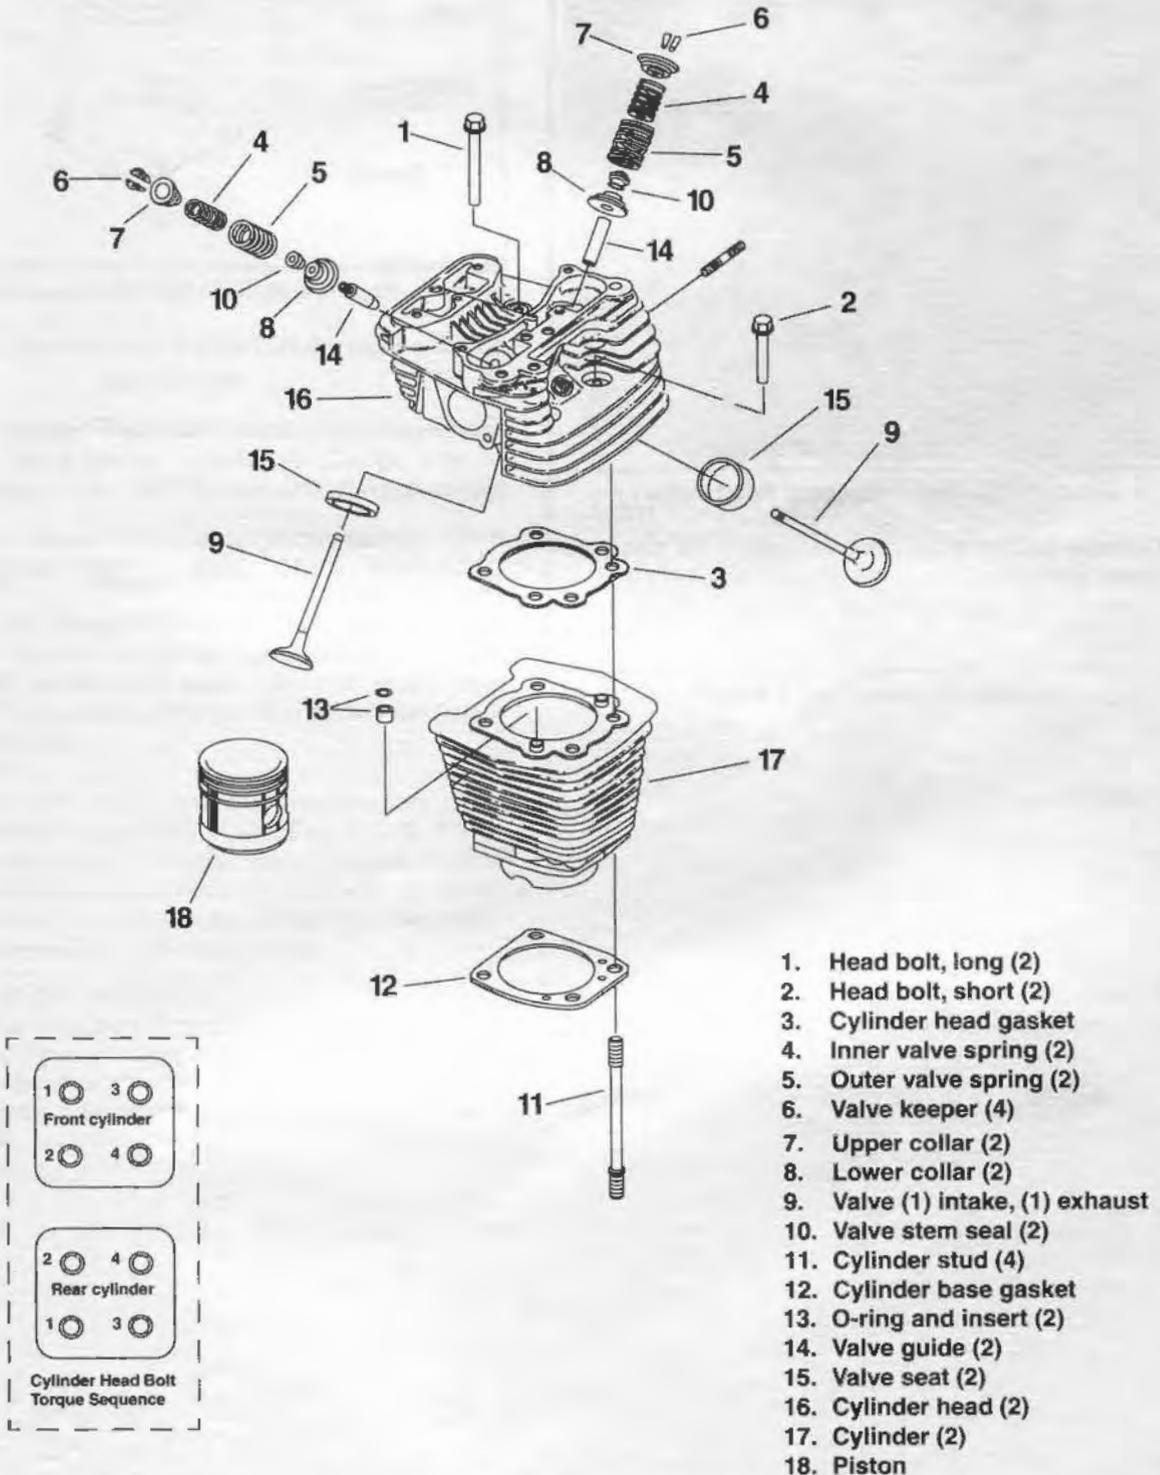

Figure 3-12. Cylinder Head and Cylinder
11. See Figures 3-12 and 3-13. Loosen each head bolt (1, 2) 1/8 turn following the cross pattern sequence shown.